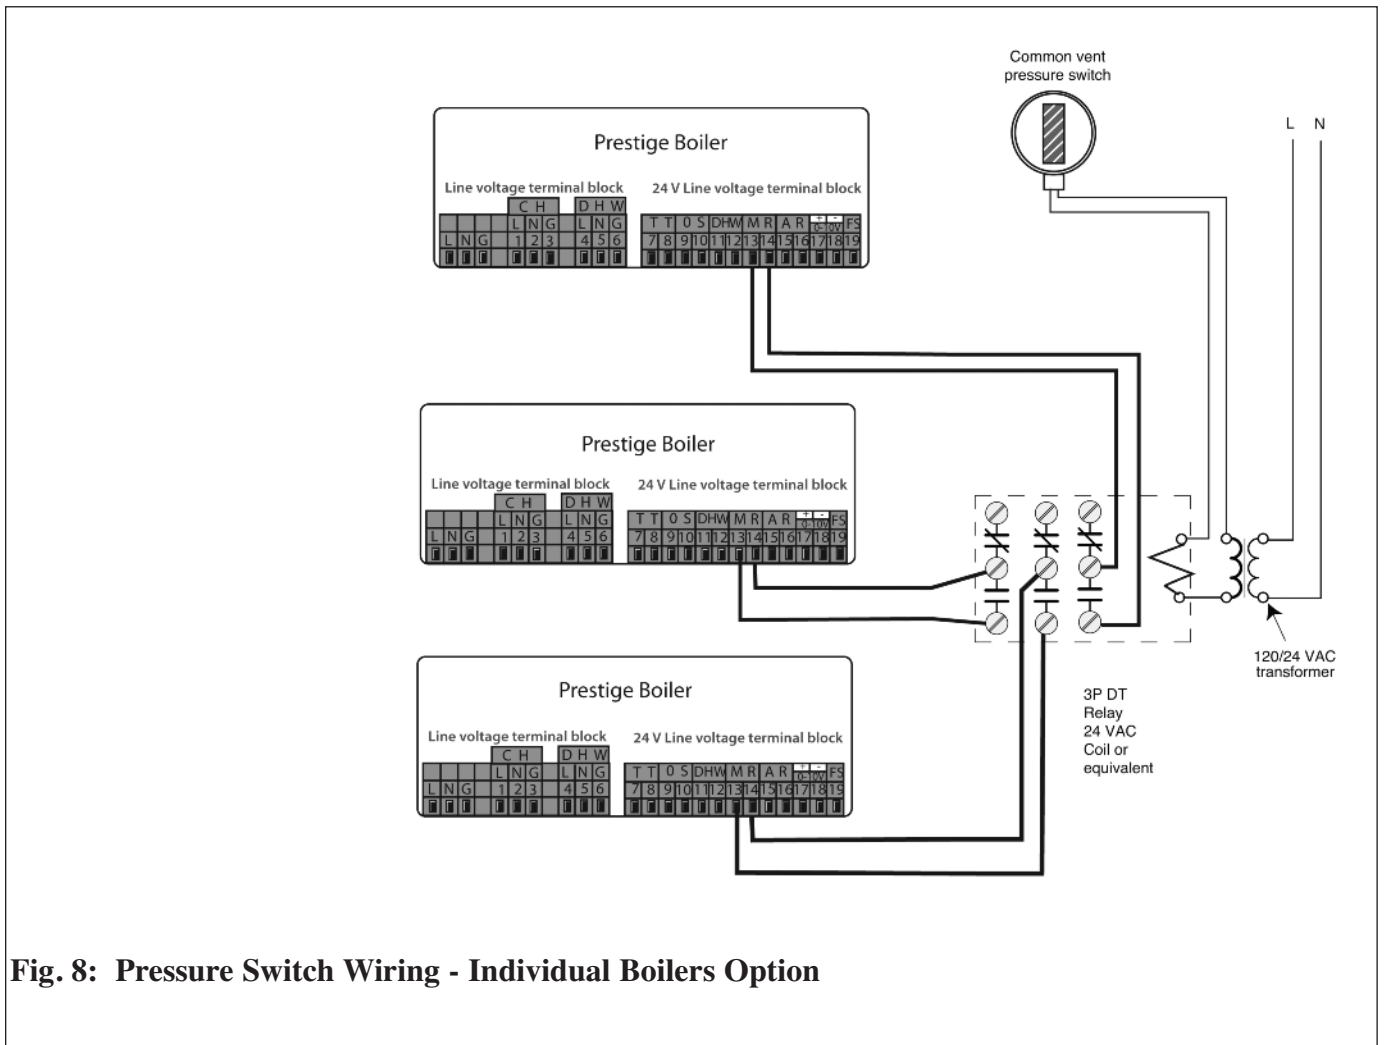

Fig. 8: Pressure Switch Wiring - Individual Boilers Option
- When wiring the individual Prestige boilers the pressure switch must be wired in parallel as shown in Fig.: 8 page 12 .